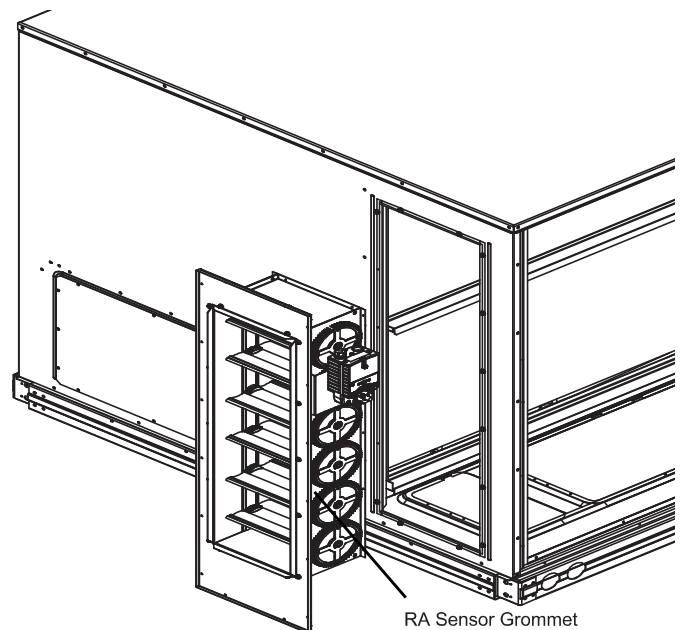

Fig. 14 - RA Damper Assembly Installation
1. Locate and install the RA Damper Assembly in the RA opening of the RTU using the provided screws. See **Fig. 14**. If installing an RA Sensor, do so at this time.